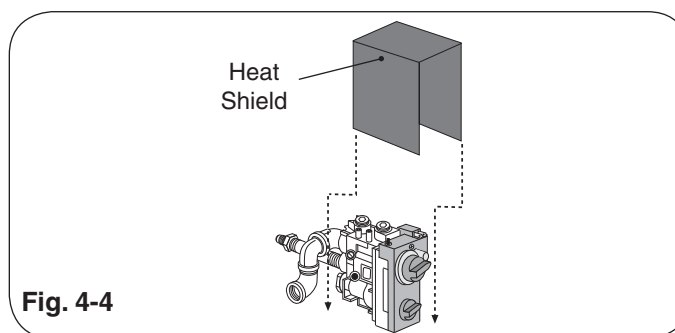

Fig. 4-4
Cover the APK-15(P) safety valve with the heat shield (PARTS LIST item 2) as shown in Fig. 4-4.